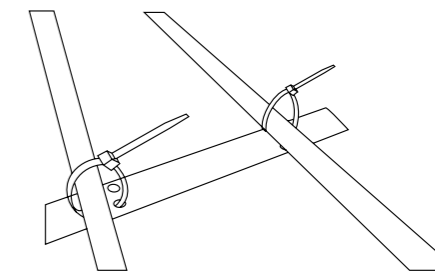

Figure 1. Gutter bar & cable ties
4. For this installation the gutter bars are used (fig. 1). UV resistant cable ties are pushed through the holes on the bar and fasten loosely so that the cable is held, but not secured.